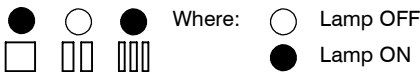

Fig. 8.7
- Press the reset button 7 repeatedly (4 times) until the lamps 10 give the indication as in Fig. 8.7 (gas type mode 1).